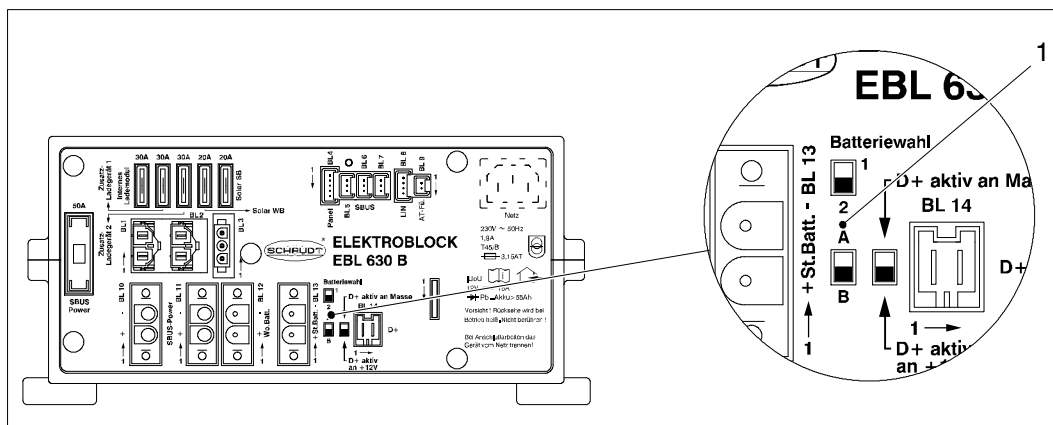

Fig. 10 Battery selector switch
- Move the battery selector switch (see Fig. 10) to the correct position using a thin object, such as a ball point pen: